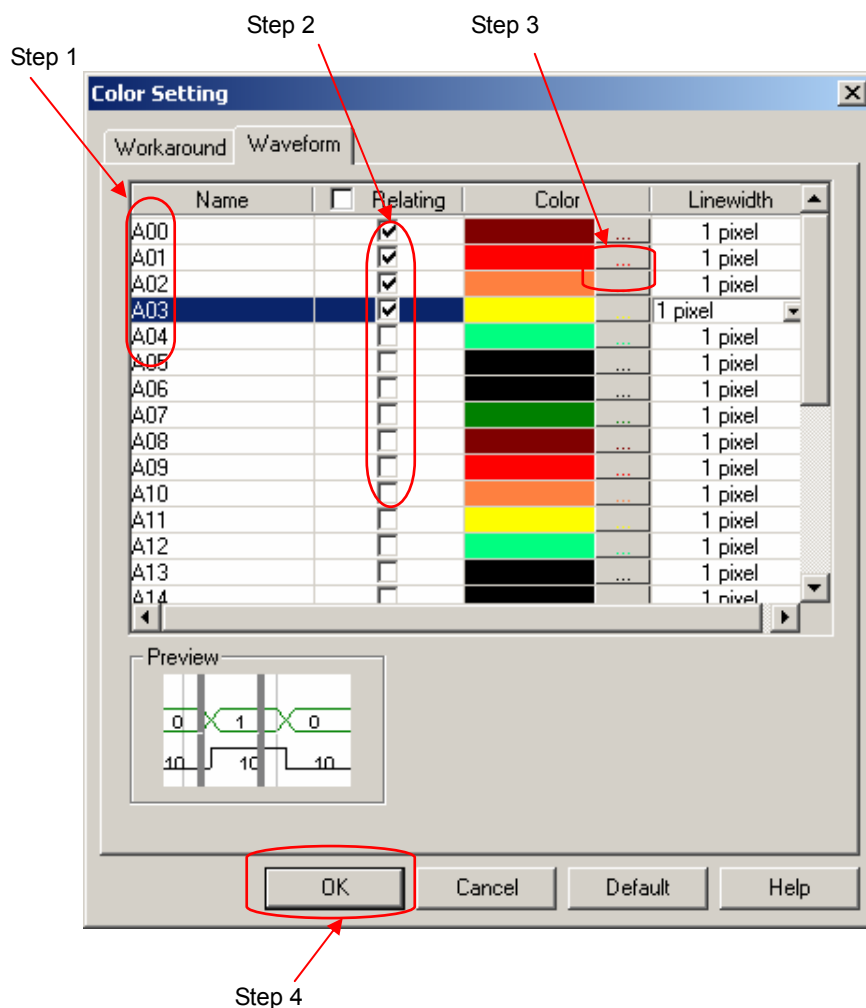

Fig 3-160: Stepwise illustration of changing waveform colors
Foreground color refers to the color of the output signal lines in the Waveform Display Area. Fig3-160 presents how to change the color of a signal. Repeat the following procedures if users need to change colors of multiple items.
Step 3: Choose a color by following the method shown in Fig 3-160.